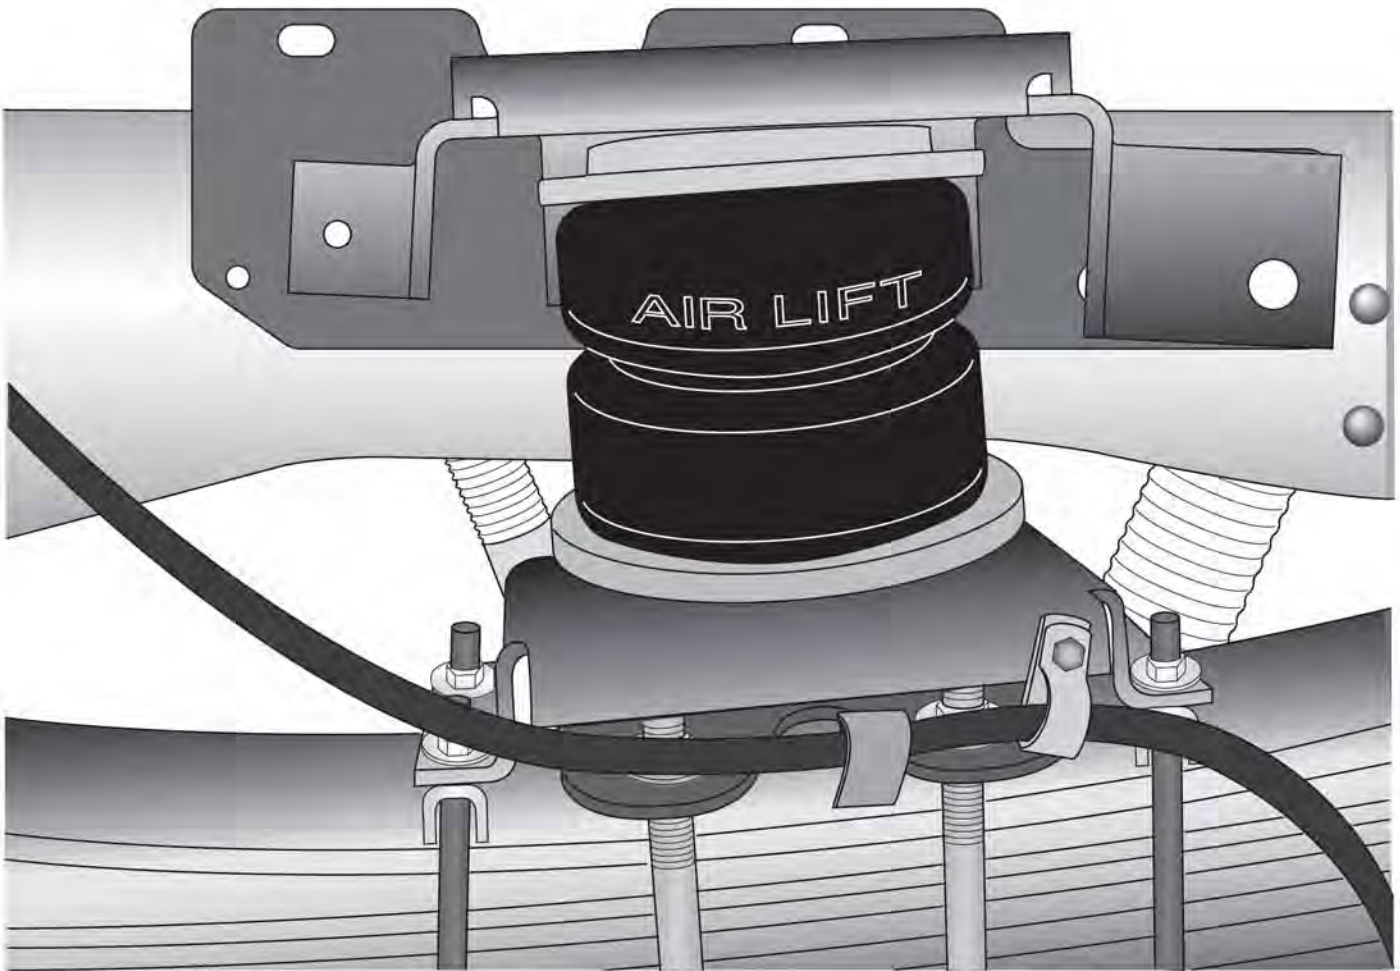
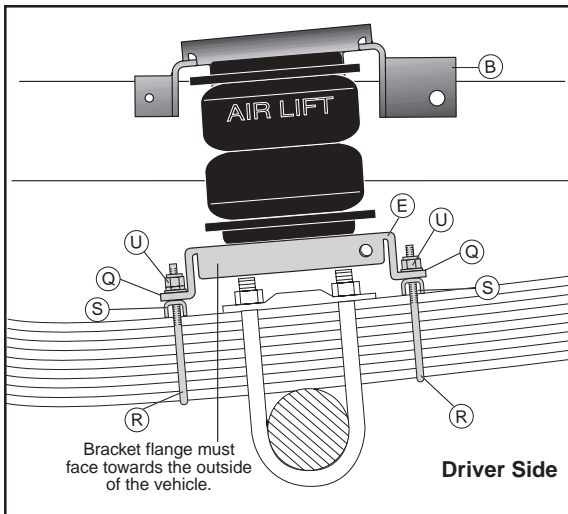
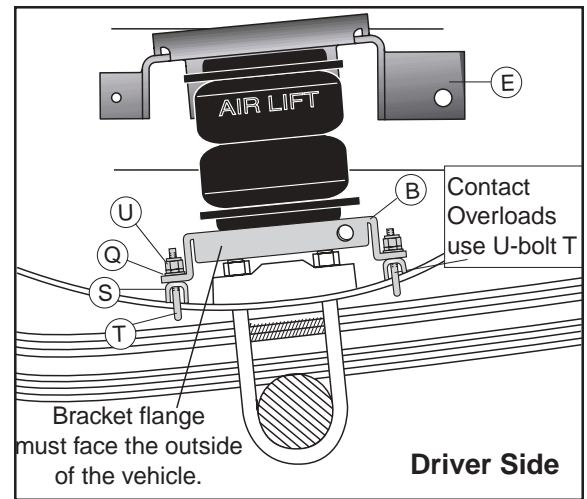

Figure 1
Figure 7
Figure 8
1. Set a roll plate (D) on both ends of the air spring (A). The radiused (rounded) edge of the roll plate will be towards the air spring so that the air spring is seated in both roll plates (Figure 1).
2. Install a 90° swivel air fitting (G) finger tight plus 1½" turns (Figure 1). Do not overtighten.
3. The upper brackets (B or C) are side specific. The small mounting hole in the upper bracket faces forward.(Figure 7).
4. Place the driver-side upper bracket (B) on top of the bellow and roll plate with the legs facing down.
5. Set the air spring on the driver-side lower bracket (E) and align the two holes in the base of the air spring with the two outer slots in the top of the lower bracket (Figure 1). Repeat this procedure for the passenger-side assembly.
6. Loosely attach the upper bracket to the assembly using flat washers (Q), lock washers (P), and hex head bolts (O). Remember that the legs face down (Figure 1).
6. Loosely attach the lower bracket to the assembly using flat washers (Q), lock washers (P), and hex head bolts (O). See Figure 1.
1. The upper brackets are left- and right-hand specific. The small mounting hole in the upper bracket will be forward of the axle on both sides (Figure 1).
2. Set the air spring over the axle (Figure 1).
3. Take two spacer bars (S) and slide one under the front leg and one under the rear leg of the lower bracket (Figure 1).
4. Depending on whether the vehicle has frame contact overloads or a regular leaf stack, attach the lower bracket to the leaf using the provided U-bolts (R or T) (Figure 7, Figure 8). Torque to 16 ft.lbs.